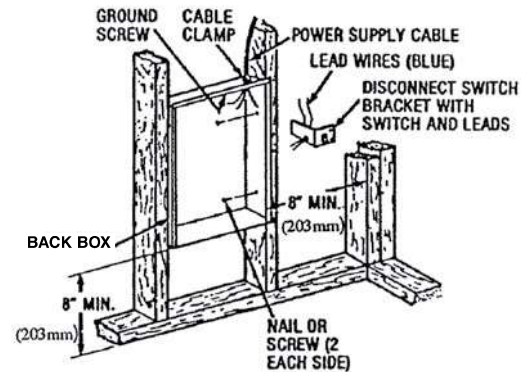

Fig. 1: Locating Recessed Back Box in New Construction
3. Power supply must enter back box through the knockouts in the RIGHT side of box (see Figure 1). See also TOP marking on the back box for proper orientation.
1. Mounting Back Box (See Figure 1).
- c. Secure the back box in position with wood screws or nails as shown in Figure 1.
2. Power Supply Wiring (See Figure 1)